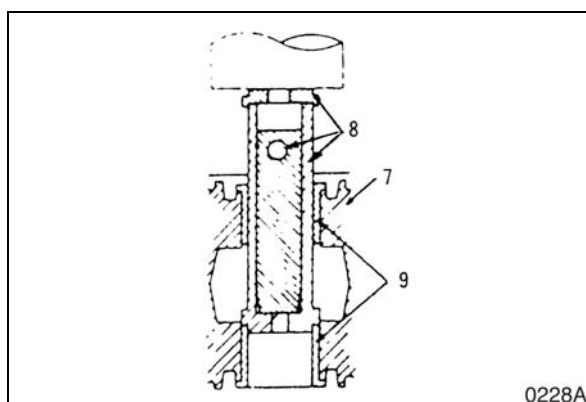

Figure 23
6. Remove bushing (8, Figure 23) with the press and special tool (ST-1909).